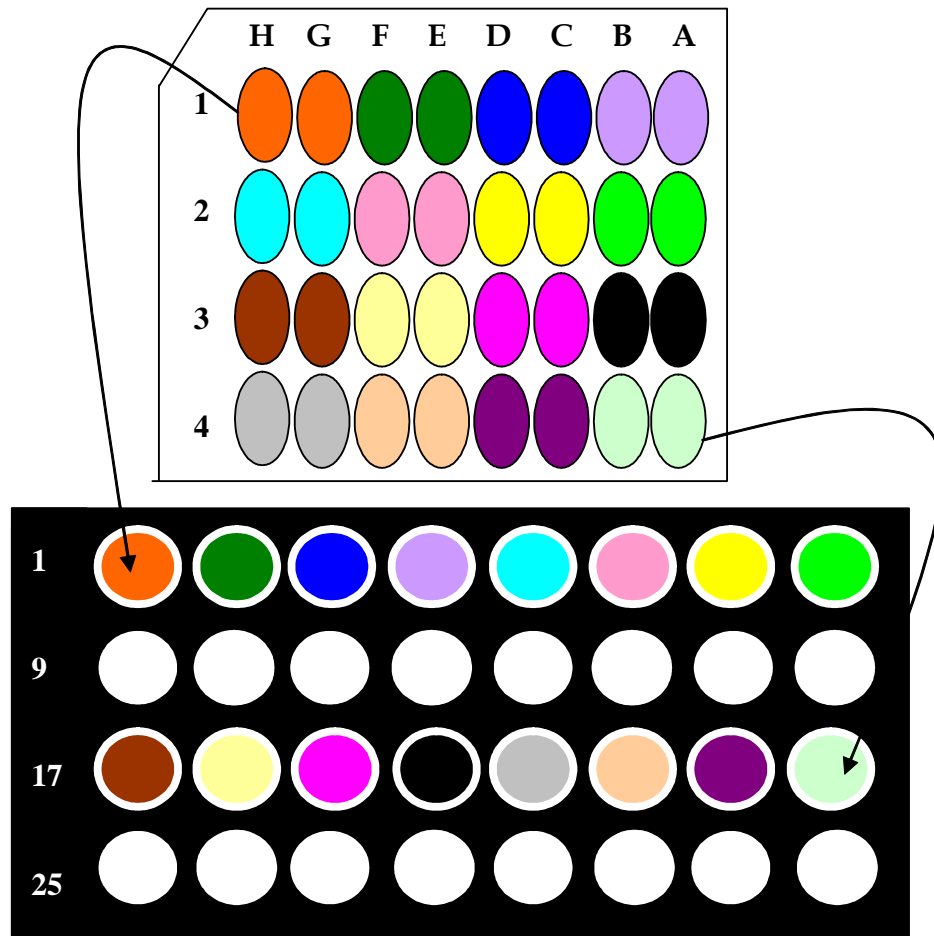

Figure 16.6-B: Post Elution Protocol Sample Transfer Schematic
- Load the appropriately labeled tubes into the left cooling block in row 1 and 17 as shown in Figure 16.6-B (for 16 samples, load row 1 only).